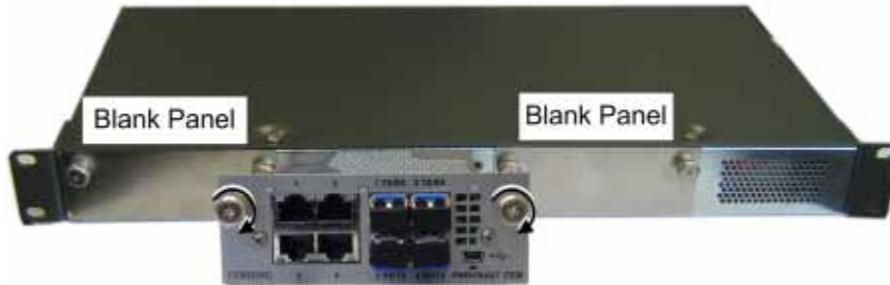

Figure 6-1. Inserting CEM Module(s)
2. Slide in the CEM and hand tighten the captive screws. Refer to Figure 6-1.